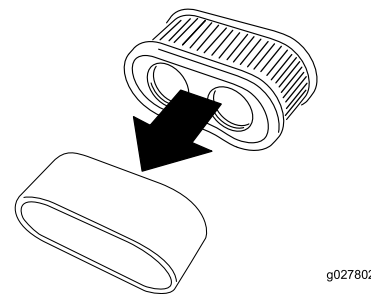

Figure 27
5. Remove the foam element from the paper element (**Figure 27**).